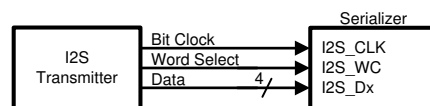
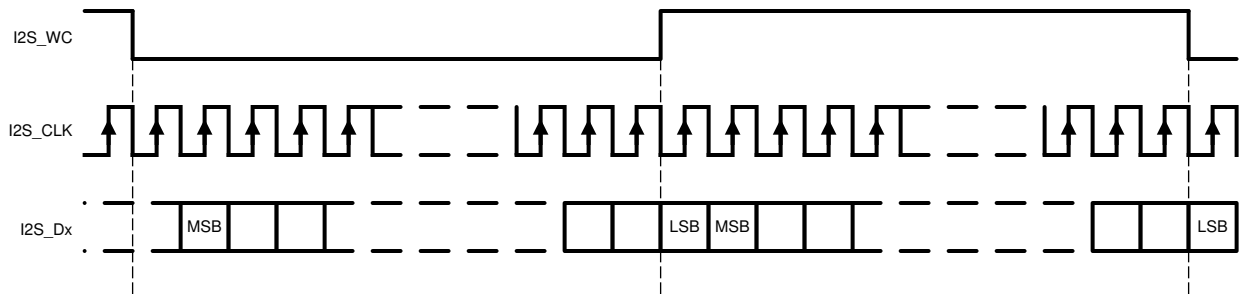

Figure 15. I²S Connection Diagram
Figure 16. I2S Frame Timing Diagram
The DS90UB949-Q1 serializer features six I²S input pins that, when paired with a compatible deserializer, supports 7.1 High-Definition (HD) Surround Sound audio applications. The bit clock (I2S_CLK) supports frequencies between 1 MHz and the lesser of IN_CLK/2 or 13 MHz. Four I²S data inputs transport two channels of I²S-formatted digital audio each, with each channel delineated by the word select (I2S_WC) input. Refer to Figure 15 and Figure 16 for I2S connection diagram and timing information.